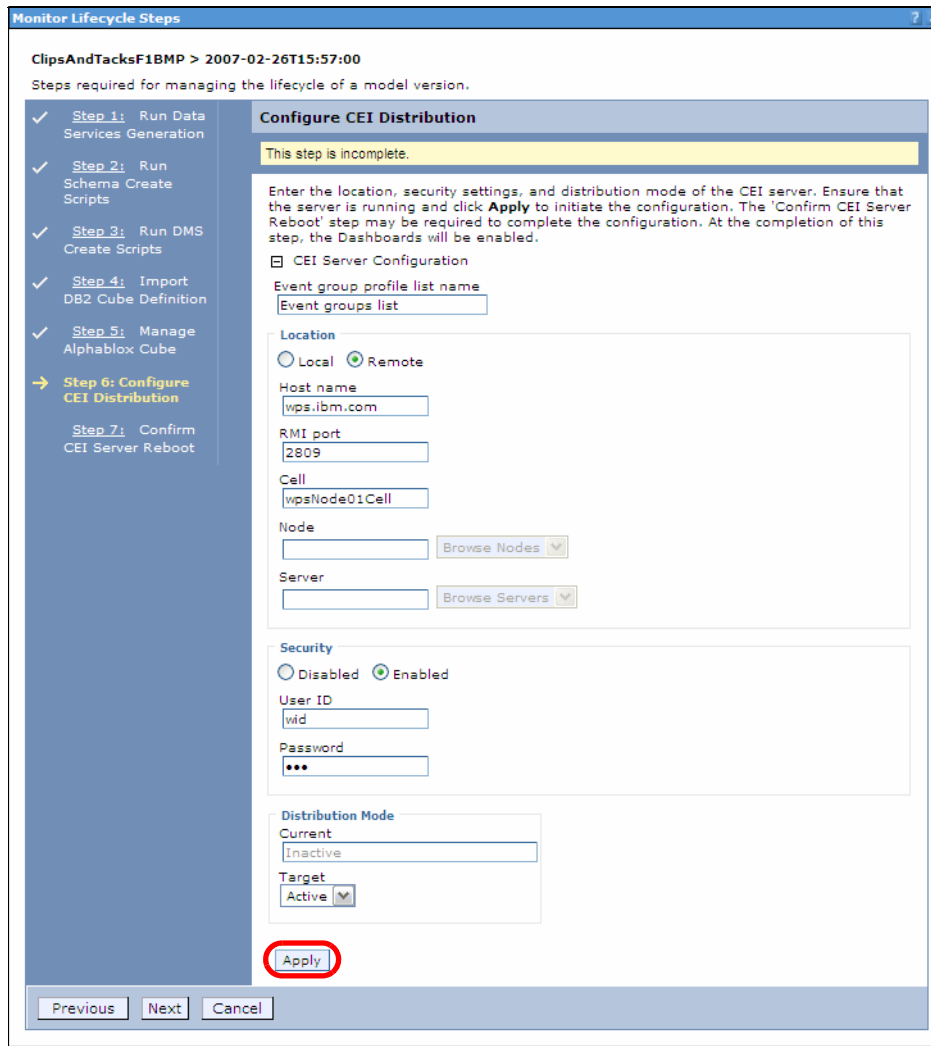

Figure 14-19 Monitor life cycle: Step 6
- ▶ Enter the details for the remote WebSphere Process Server system where the business process is running (Figure 14-19):
- ▶ Click *Apply* (Figure 14-19).